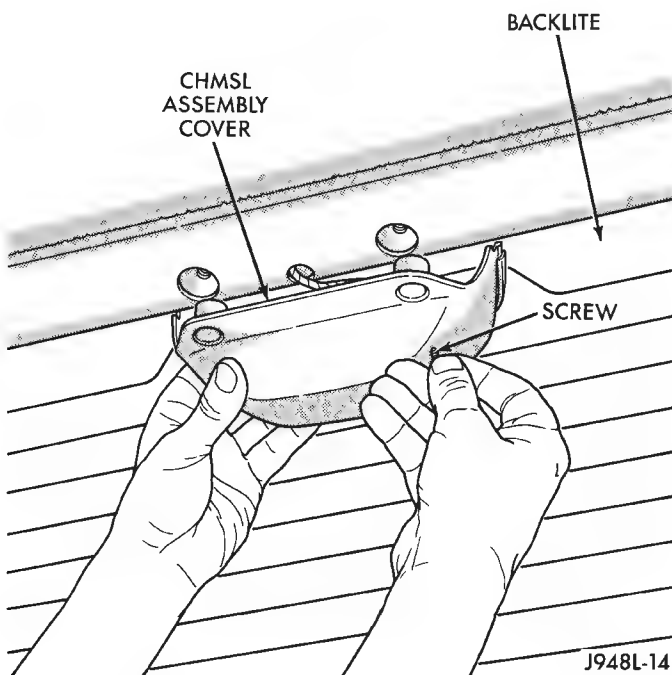
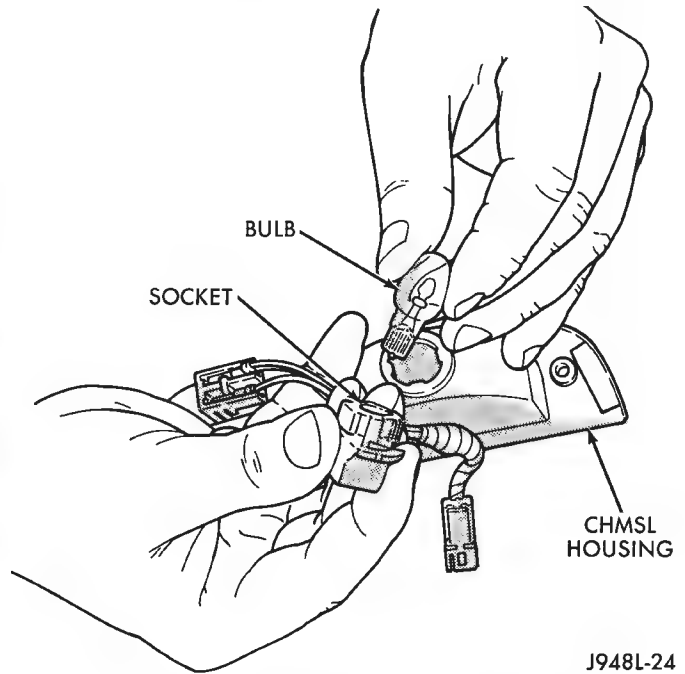

Fig. 20 Removing CHMSL Access Door
Fig. 21 Replacing CHMSL Bulb
- (1) Raise liftgate.
- (2) Remove CHMSL access door (Fig. 20).
- (3) Remove CHMSL lamp mounting screws.
- (4) Remove CHMSL lamp assembly.
- (5) Replace bulbs if necessary (Fig. 21).